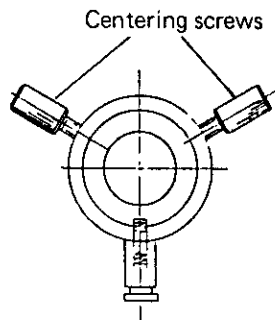

Fig. 11
- b. Centering adjustment of the lamp filament can be done with two centering screws. (Fig. 11)